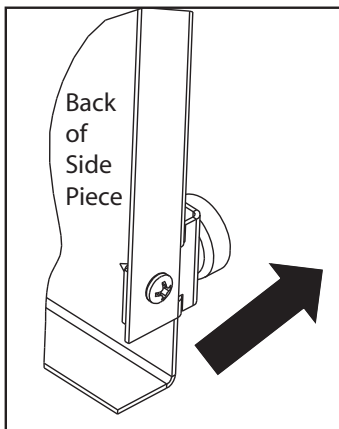

Figure 23.2
4. Push the logs to the far left and far right against the sides of the firebox. **Figure 23.2.**